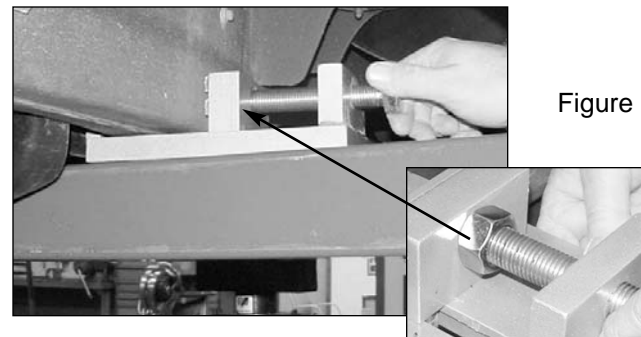

Figure 17
2. Lower vehicle to position boxed rail in jaws of rail vise. Tighten the adjustment bolt to hold the assembly in place. (See Figure 17.) If necessary, attach a 20mm nut (Part No. 539016) to end of adjustment bolt to extend its adjustment capability. (See Figure 17 Inset.)